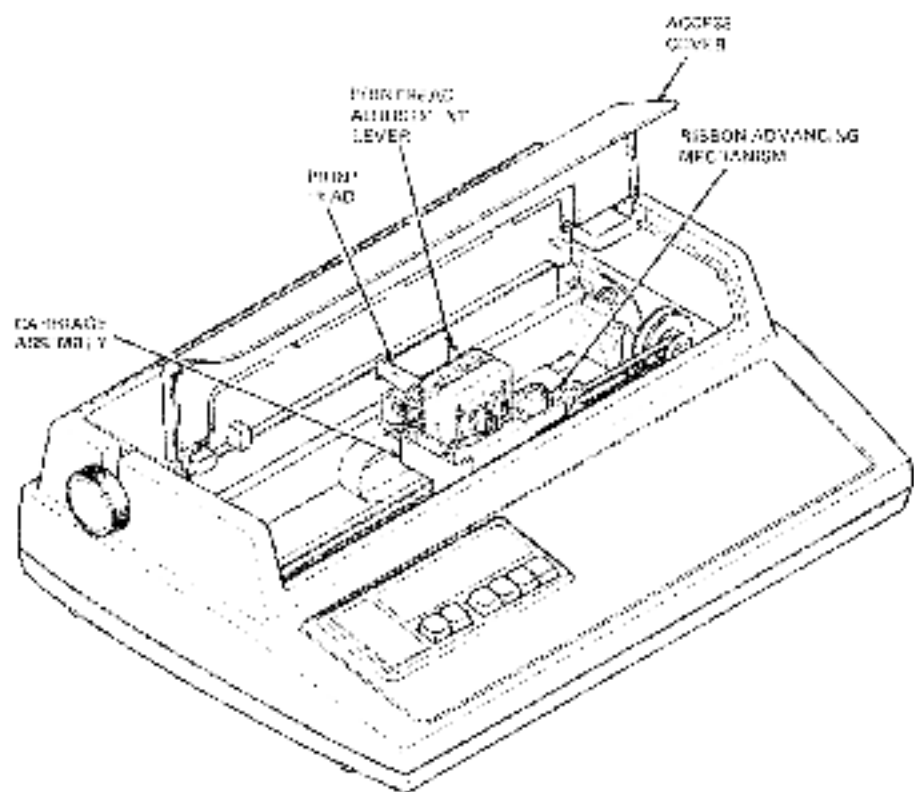
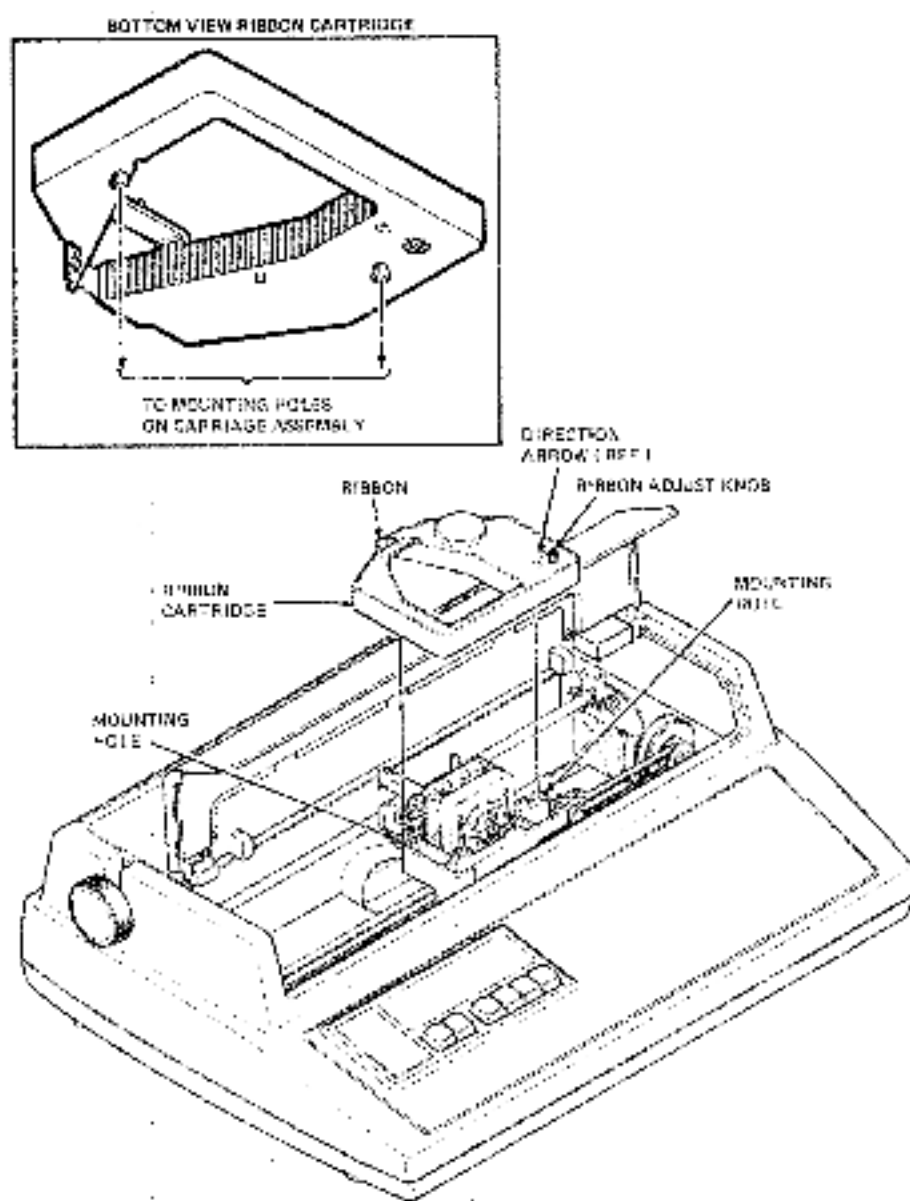

Figure 2-1 Carriage Assembly
Figure 2-2 Ribbon Cartridge
1. Open the access cover (Figure 2-1).
2. Remove (lift) and discard the old ribbon cartridge (Figure 2-2).
3. Move the printhead adjustment lever all the way to the right (Figure 2-1).
4. Turn the ribbon adjust knob on the new ribbon cartridge clockwise to tighten the ribbon (Figure 2-2).
5. Line up the snap buttons on the new ribbon cartridge with the mounting holes in the carriage assembly (Figure 2-2).
6. Slowly press the new ribbon cartridge onto the carriage assembly while turning the ribbon adjust knob. Verify that the slot in the ribbon cartridge (Figure 2-2) engages the tab on the ribbon advancing mechanism (Figure 2-1).